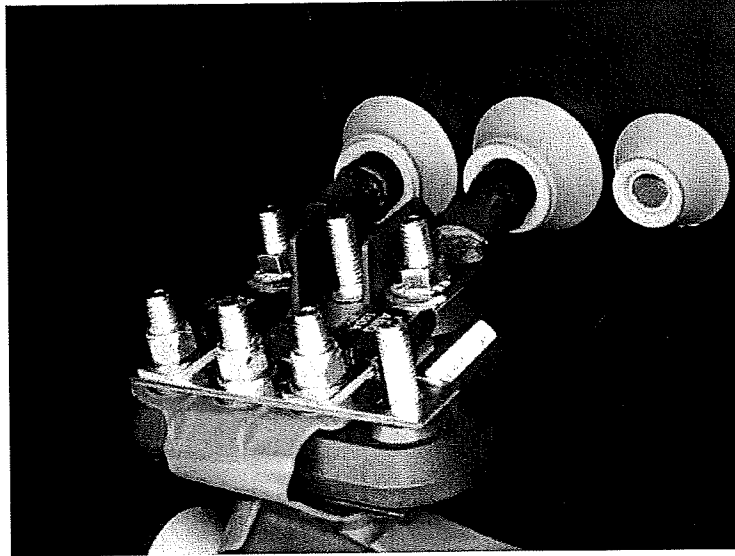

Figure 7
14. Position the enclosure just below its mounting bracket under the bus. Feed the Main Chassis and Body power cables through the two upper grommets aligned with the mega fuses. Secure the cables using two (2) 5/16-18 Toothed Nuts, TBB 69004003 and torque to 8-10 ft-lbs. **Figure 7**